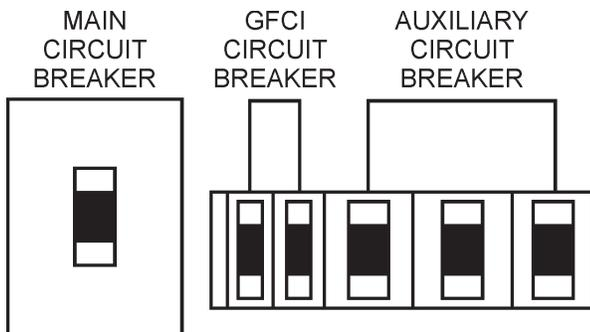

Figure 38. Main, Aux. and GFCI Circuit Breakers (OFF)
1. Place the **main, G.F.C.I.,** and **aux.** circuit breakers (Figure 38) in the **OFF** position prior to starting the engine.
1. Place both the **MAIN**, **GFCI** and **LOAD** circuit breakers as shown in Figure 38 to the **OFF** position.
2. To shut-down the engine in the event of an emergency, switch the **MAIN**, **GFCI** and **LOAD** (Figure 38) circuit breakers to **OFF** position.